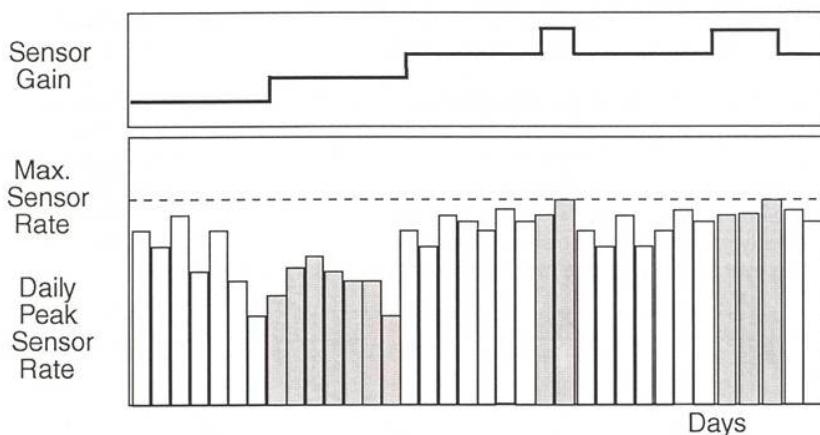

**Figure 117: Sensor Gain**
The Sensor Gain, also known as response factor, defines how much the sensor signal is amplified before it is transformed to a rate change. The Sensor Gain can be programmed to Auto or to a fixed setting. When the Sensor Gain is Very low (1.3), a great deal of exertion is needed to cause a significant change in sensor output and a subsequent change in the pacing rate. When the Sensor Gain is Very high (26), little exertion is needed to increase the sensor output. Ideally, the gain should be programmed so that the maximum desired pacing rate during exercise occurs at a maximum exertion level as shown below in Figure 117.